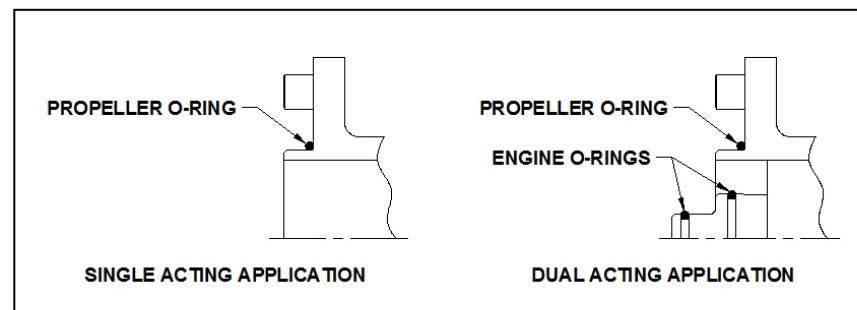

Figure 5-9
- (5) Install the propeller o-ring onto the engine flange. (Figure 5-9).
Make sure the two engine o-rings are installed in the insert in engine flange (Figure 5-9).